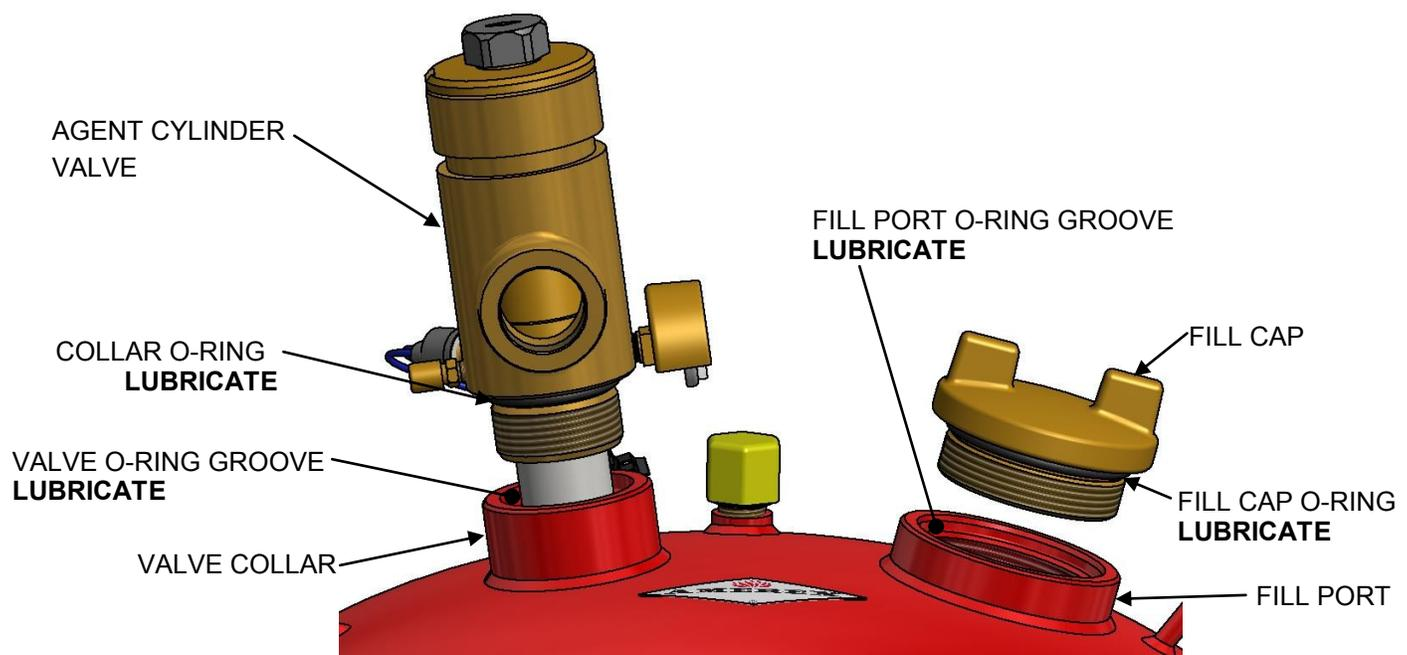

Figure 6.2.6.2
7. Remove the Fill Cap and discard Fill Cap O-Ring (a new one will be supplied with V250 Recharge Kit (P/N 23009) (See Figure 6.2.6.2).
- V250 Agent Cylinders (See Figure 2.1.1.b): Agent Cylinders must have the Agent Cylinder Valve installed prior to refill. Perform step 1 of Section 6.2.6.2 prior to refill. V250 Agent Cylinder can be filled through the Fill Port (See Figure 6.2.6.2).
#### **6.2.6.2 Agent Cylinder Valve Installation & Agent Cylinder Charging, V250 Agent Cylinder** (See Figure 6.2.6.2)